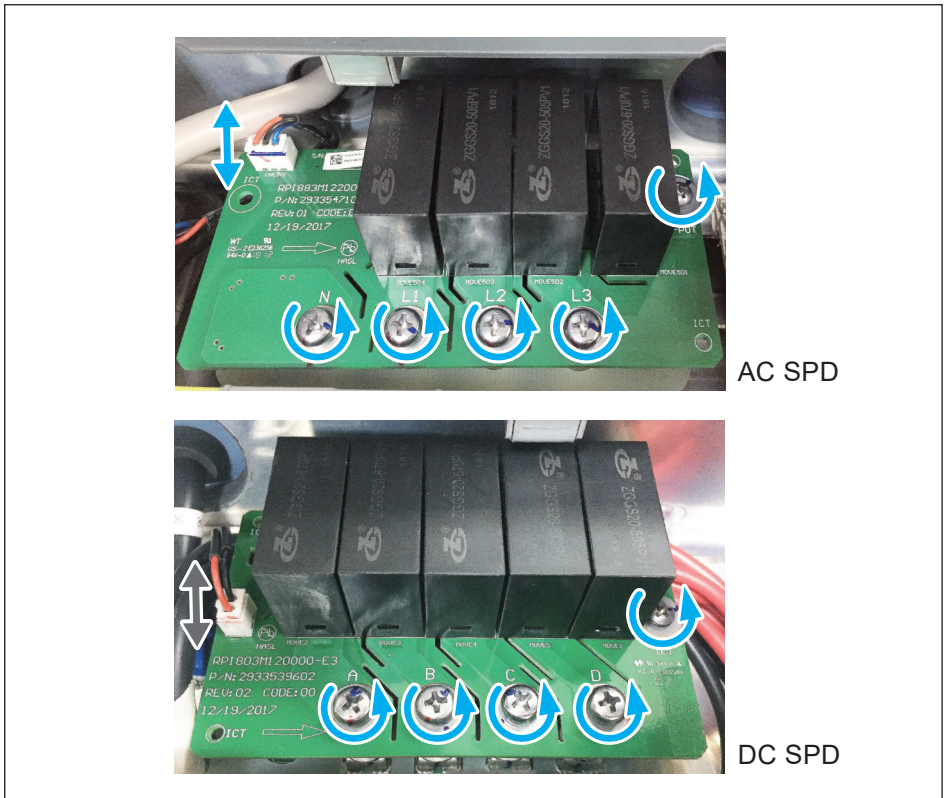

Figure 5-6 : Pull out the connectors and remove the screws as shown in arrows
4. Pull out the connector (white; 3 pins at AC side; 2 pins at DC side) and replace a whole new SPD PCB. (**Figure 5-6**)